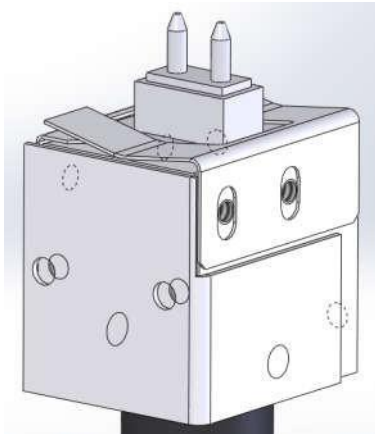

fig 56
- Replace a new light source by reverse steps, pay attention to the position of the light on the light source part, loaded flat and stable then fix the fixing plate (Fig56).